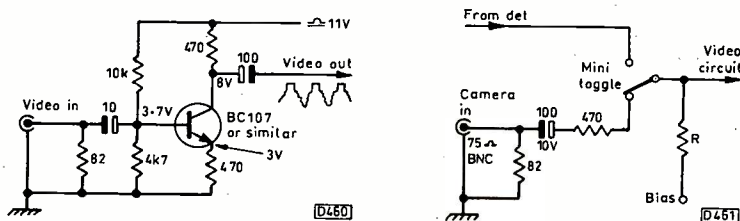

Fig. 3 (left): Suitable unity-gain inverting amplifier. Fig. 4 (right): Typical practical modification.
(1) In breaking the circuit you may upset the video biasing arrangement. It may be necessary to add a potential divider across the main 11/12V rail and chassis as a new source of bias.
(2) If the video signal is negative-going at the only suitable break in the circuit, you may need to invert the signal from the camera. A suitable unity-gain inverter stage is shown in Fig. 3.